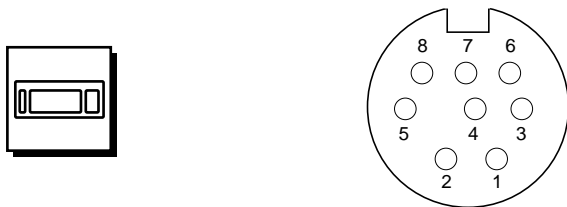

FIGURE 1-4 DIN-8 Keyboard/Mouse Connector
- FIGURE 1-4 DIN-8 Keyboard/Mouse Connector 1-4